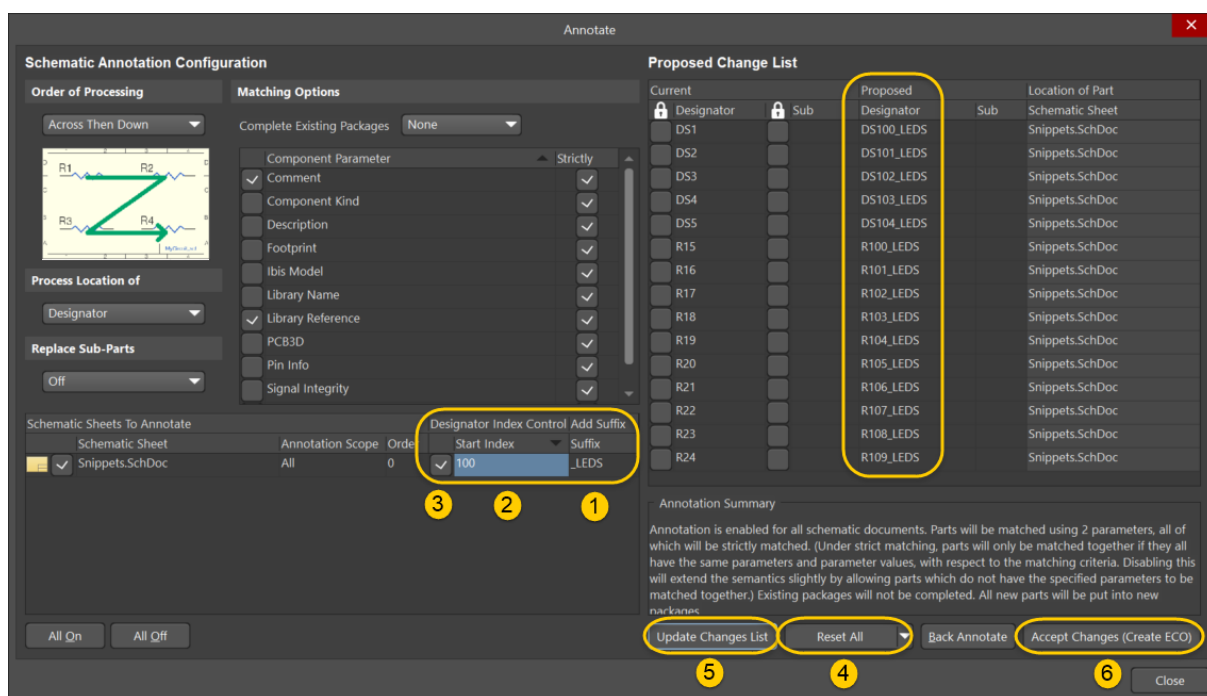

Figure 17. Annotation Options
47. For the following steps, refer to the information below as well as Figure 17:
- Enable the **Designator Index Control** checkbox as shown in Figure 17. These 3 settings will make it clear as to which components originated from a snippet.